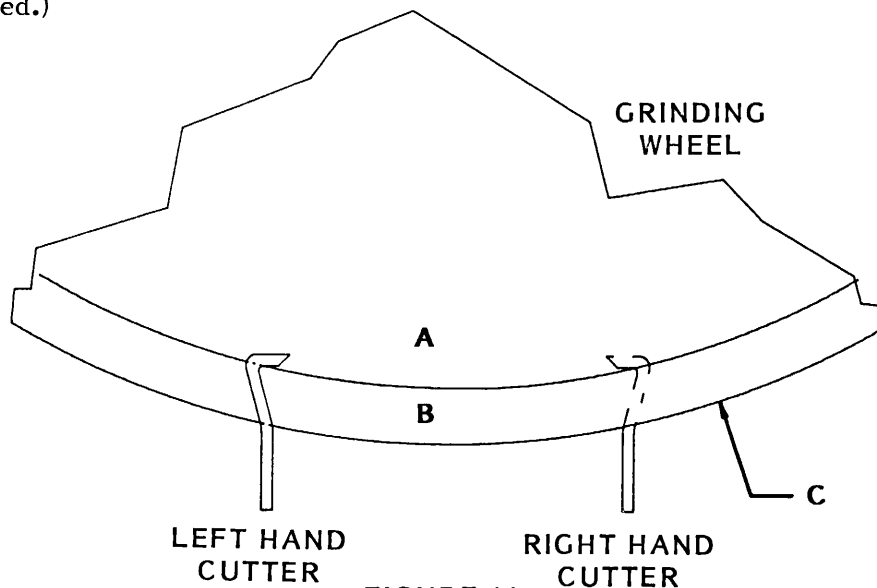
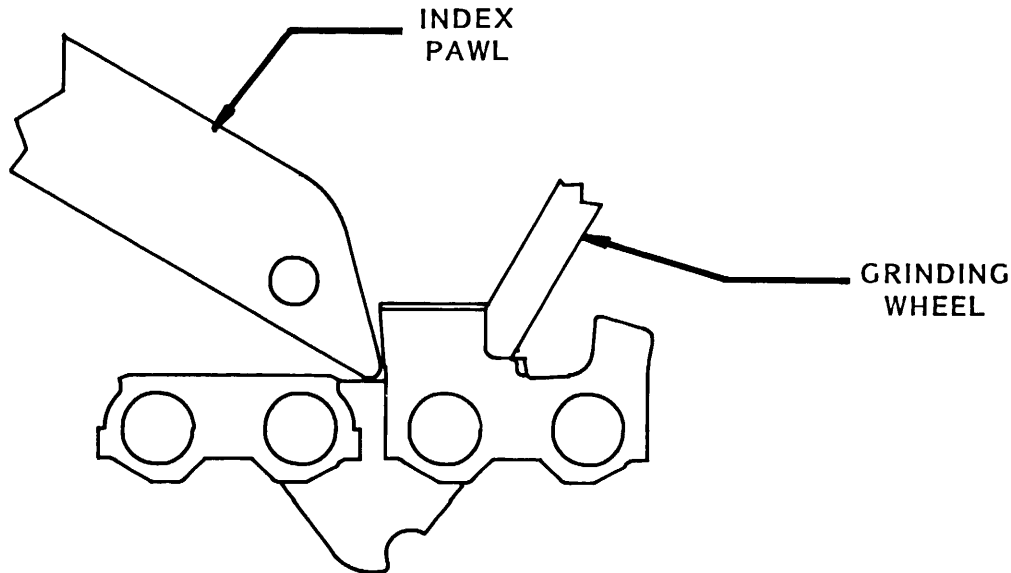

FIGURE 11
FIGURE 19
12. **SETTING OFFSET.** The offset allows for the proper Top Plate Cutting Angle to be ground across the full width of the Top Plate of a cutter link. To set offset, move the clamping plates so the cutter link will be located properly under the grinding wheel. (There are offset marks punched in the baseplate of the grinder to be used for reference purposes.) A properly placed cutter link under a grinding wheel is shown in **Figure 11.** (There will be final adjustments of the offset after the grinding wheel has been dressed.)
15. SET THE INDEXING PAWL. Using the thumb bolt adjuster (front left of the machine), set the indexing pawl to the back side of the cutter that is being sharpened (See Figure 19), to a position that will sharpen just enough cutter to regain a new, clean edge. After setting the indexing pawl, return to steps 12 and 13 and Figure 11 to make the final offset setting and also the correct depth setting to leave a clean, flat gullet.